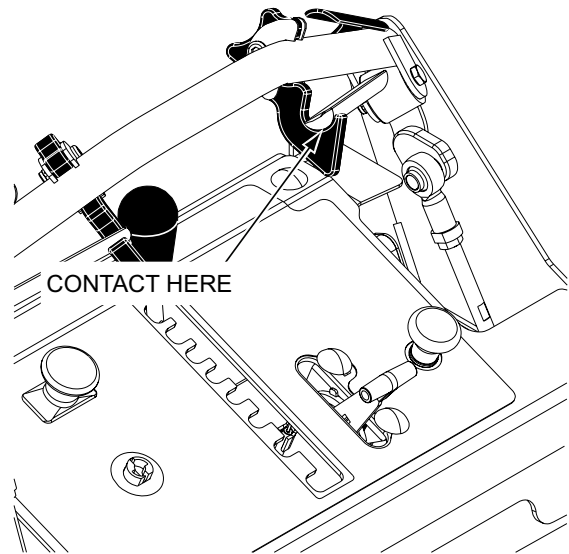

Figure 6-4. Control Rod Adjustment
4. Turn the steering control rod until the steering control lever makes contact with the neutral latch. Hold the steering control rod and tighten the jam nuts. See Figure 6-4.